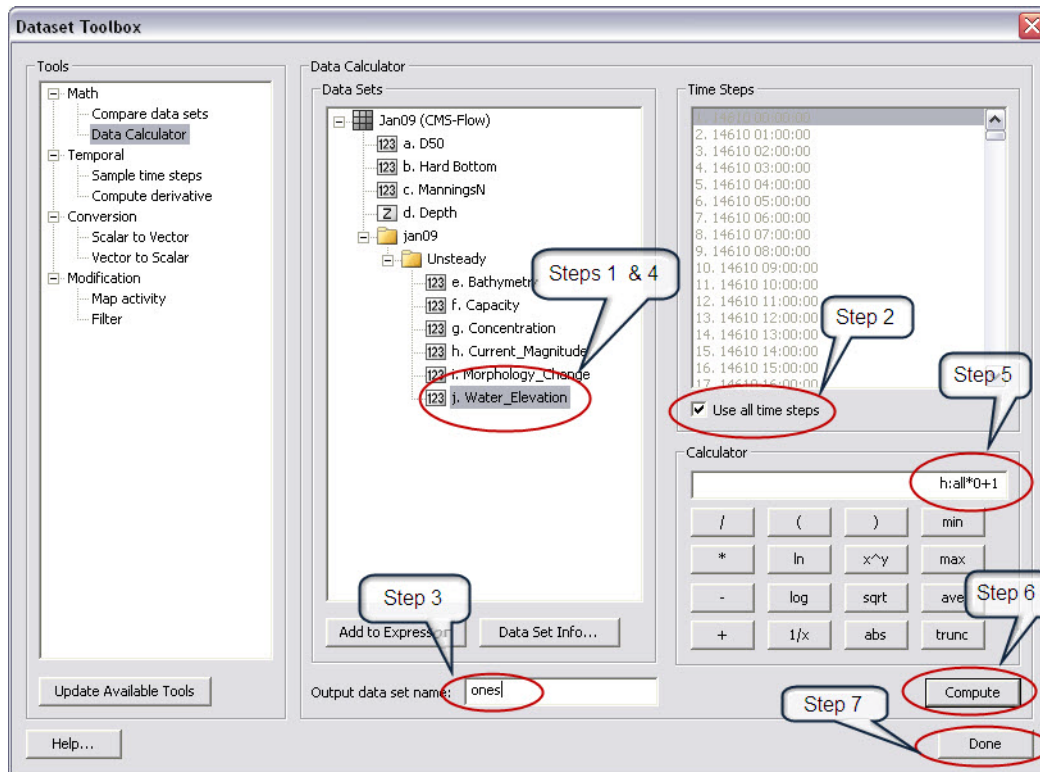

Figure 8.3.4. Steps to create a time series dataset of “ones” within the Cartesian grid module.
7. In the *Data Calculator* (Figure 8.3.4), select the *water elevation* dataset (1), click on the *Use all time steps* checkbox (2), change the name of the *output dataset* to *ones* (3), double-click on the *water elevation* dataset (4) so that it appears in the *Calculator* window.
8. In the *Calculator*, multiply the dataset by zero and then add one (5), select *Compute* (6). The calculation might take a few minutes if the dataset is large. Once the calculation is completed, select *Done* (7), and the output dataset will appear under the Datasets window.